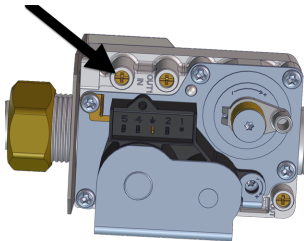

Figure 1 Location of inlet gas pressure test port
3. Attach the manometer to the inlet gas pressure test port, as seen in Figure 1.